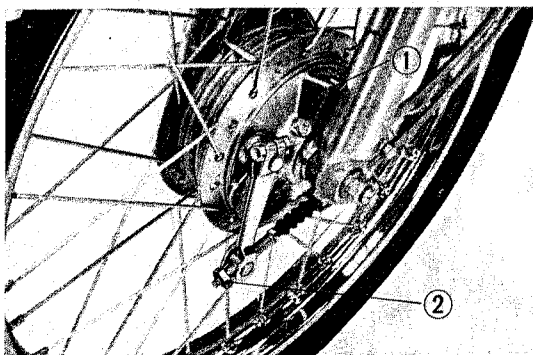

Fig. 107 Front brake wire adjustment
- 5) Assemble the brake panel on the front wheel. Align the recessed section of the panel to the protruding section of the front fork. Assemble the oil seal and side collar on the side of the bearing retainer and then mount it on the front axle with a nut. (Fig. 107)